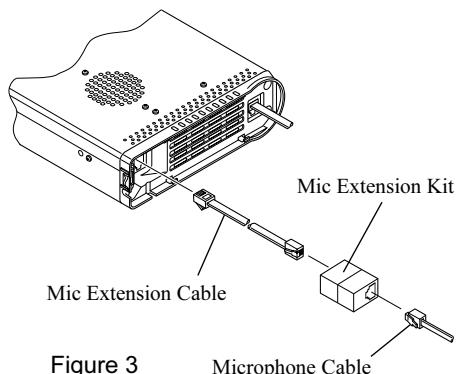

Figure 3 Microphone Cable
5. Referring to Figure 3, insert the plug of the Mic Extension Cable into the **MIC** jack on the **FT-857D**, then inset the Mic Extension Cable and microphone cable into the jack of the Mic Extension Kit.